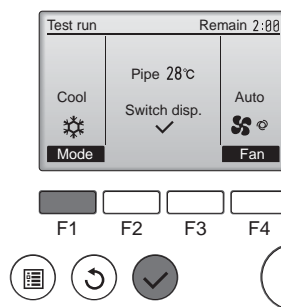

Fig. 5-5
- ① Press the button to go through the operation modes in the order of "Cool" and "Heat". (Fig. 5-5)